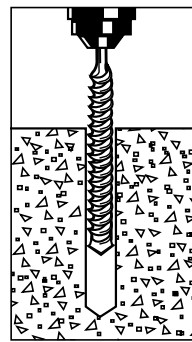

Figure 4
5. Drill the marked holes using a 1/4" (6 mm) masonry drill bit. Drill the holes into the concrete base to a depth of at least 1/2" (1 cm) deeper than the length of the 1/4" x 3" (6 mm x 8 cm) Wedge-Bolt anchors. Blow the hole clean of dust and debris (Figure 4).